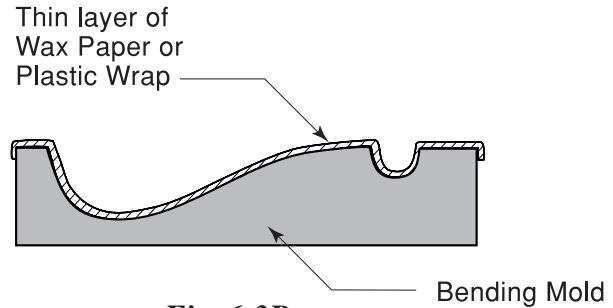

Fig. 6-3B
4. Cover the inside of the bending mold with wax paper, plastic wrap, or baby powder, to minimize the rail sticking to the molding. Please note Fig. 6-3B here.